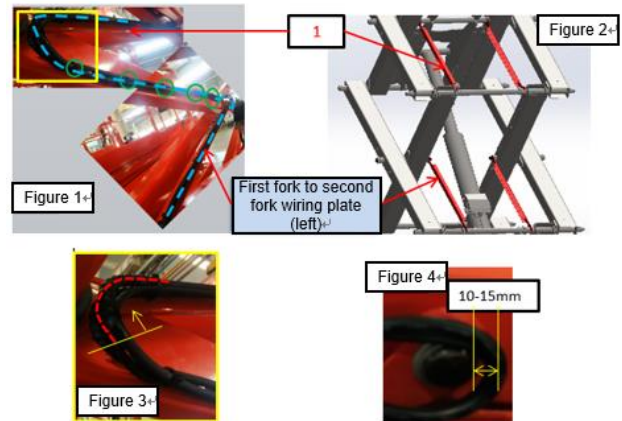

Fig. 4.79 Installation of second layer pipeline
- a) Smooth the inlet, return pipes and branch harness of the upper oil cylinder connected with fork harness, following the light blue dotted line shown in Fig. 4.79 of Fig. 1, and bind it to the inner wall of the second-layer fork. The key control points are as follows:
- The inlet, return pipe and fork harness of the upper oil cylinder are connected to the branch wire harness of the oil cylinder to arc along the central axis, and the distance between the top of the arc of all pipelines and the top of the arc of the pin of the fork frame is 10-15 mm (as shown in Fig. 4.79 of Fig. 4);
- As shown in Fig. 4.79, the yellow line position in Fig. 3 starts to wind 300mmPVC, and protects it to the starting end point of the wiring plate. As shown by the dotted line red Fig. 3, the two ends are wound and fixed with adhesive tape.